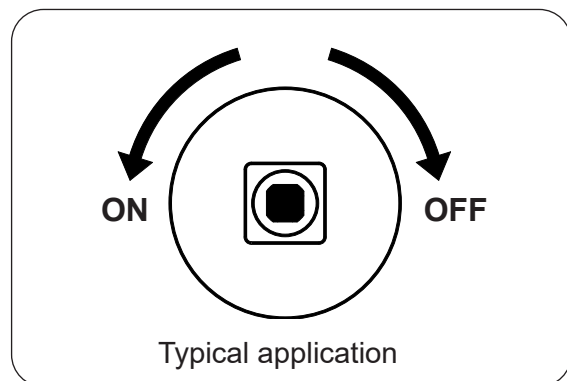

Fig. 15-2
4. **Once the flame is in position**, slowly turn the key valve counter-clockwise toward the **ON** position until it no longer rotates (see Fig. 15-2). Your burner should light.
**WARNING:** If the burner does not light within (5) seconds of turning on the key valve, immediately turn the key valve clockwise toward the **OFF** position until it no longer rotates.
To extinguish your gas burner, turn the key valve clockwise toward the **OFF** position until it no longer rotates (see Fig. 15-2). Be sure the key valve is turned fully off to avoid any gas leakage.